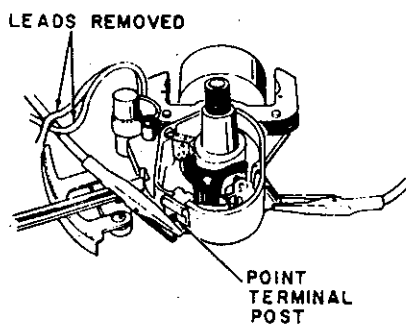

Figure 27
- L. Install leads of some continuity reading device on the point terminal and to ground. (See Figure 27.)